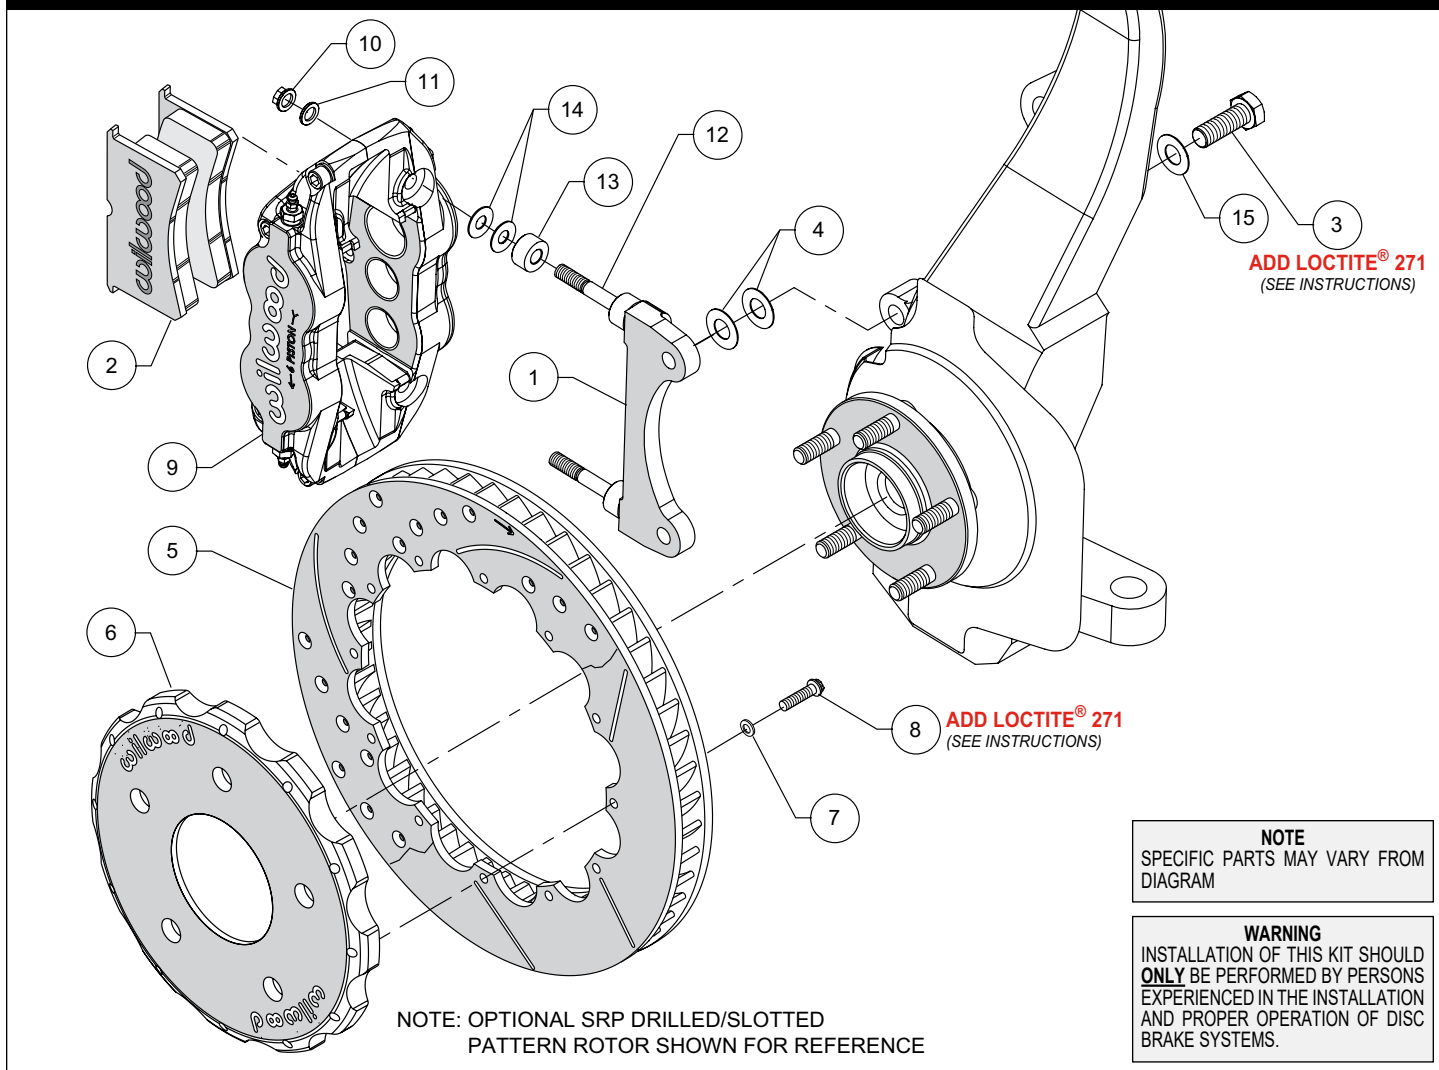

Figure 1. Typical Installation Configuration
**Assembly Instructions** (numbers in parenthesis refer to the parts list and Figure 1 on the preceding pages):
•The caliper mount bracket (1) should initially be installed with clean, dry threads on the mounting bolts. Orient the bracket as shown in Figure 1 and Photo 1, and install using washer (15) and bolts (3). Initially place two additional shims (4) on each bolt between the bracket and upright, Figure 1. Temporarily tighten the mounting bolts. **NOTE: The bracket must fit squarely against the mount bosses on the upright.** Inspect for interference from casting irregularities, machining ridges, burrs, etc. Later, after the caliper alignment has been checked, the mount bolts will be secured using red *Loctite*® 271.
•Orient the rotor (5) and the hat (6) as shown in Figure 1 and Photo 2. Attach rotor to hat using bolts (8) and washers (7). Apply red *Loctite*® 271 to the bolt threads and torque to 155 **in-lb** using a criss-cross pattern. For an added measure of security, the bolts may be safety wired using standard 0.032 inch diameter stainless steel safety wire as shown in Figure 4. Please refer to Wilwood's data sheet DS-386 (available at [www.wilwood.com/Pdf/DataSheets/ds386.pdf](http://www.wilwood.com/Pdf/DataSheets/ds386.pdf)) for complete safety wire installation instructions.
•**NOTE: This kit contains distinct right and left hand calipers that must be mounted in a specific direction, as described below.** Initially place two .035" thick shims (14) and one spacer (13) on each stud (12) as shown in Figure 1 and Photo 3. Mount the caliper (9) onto the bracket (1) using lock nuts (10) and washers (11), Figure 1 and Photo 4. Ensure that the caliper is mounted so that the largest pistons are at the rotor exit end of the caliper, in relation to the direction of rotor rotation. Temporarily tighten the lock nuts and view the rotor through the top opening of the caliper. The rotor should be centered in the caliper, Photo 5. If not, adjust by adding or subtracting shims (4) between the bracket and the upright. Always use the same amount of shims on each of the two mounting bolts. Once the caliper alignment is correct, remove the bracket mounting bolts one at a time, apply red *Loctite*® 271 to the threads, and torque to 75 ft-lb.